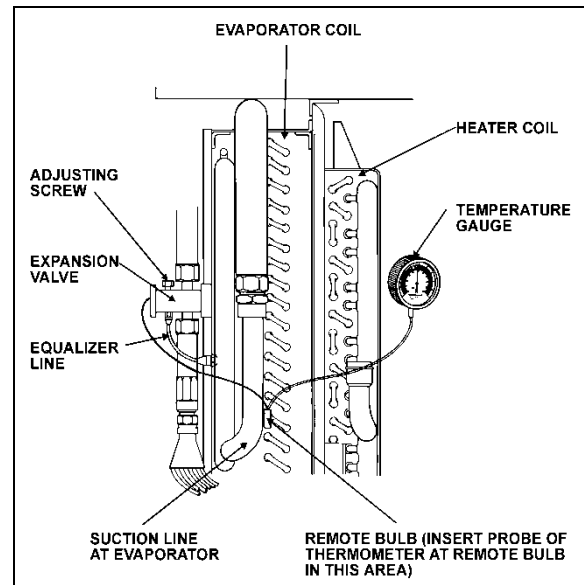

FIGURE 72: SUPERHEAT ADJUST. INSTALLATION
3. Use a remote reading thermometer or thermocouple / multimeter to measure temperature at the evaporator outlet line near the existing remote bulb (Figure 72).